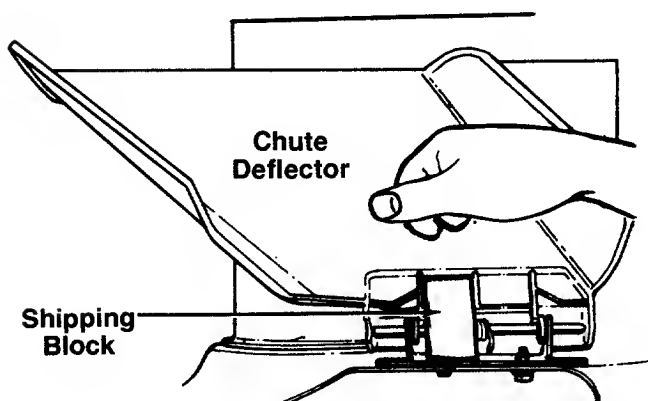

FIGURE 9.
1. The chute deflector on your mower is held in an upright position by a block for shipping purposes only. This shipping block must be removed and discarded before the mower is put into operation. To remove the shipping block, move the spring-loaded chute toward the engine by pushing above the shipping block. See figure 9. Remove the block and carefully lower the chute into operating position, keeping fingers out of the way.